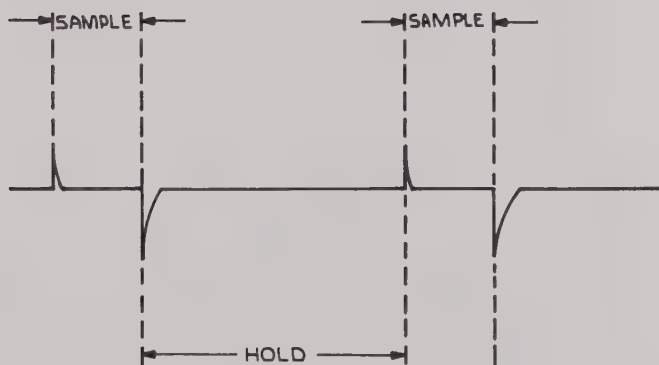

FIGURE 6.6
- (c) View the output on the test point "SH" with an oscilloscope and adjust the JUMP potentiometer until both the Sample-and-Hold levels are settled to the same value as pictured in Figure 6.6.